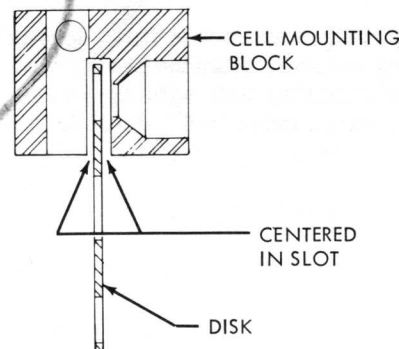

Figure 5-5. Disk Location
- b. Reinstall disk and slightly tighten disk mounting screw. Check to see that disk is located in center of solar cell mounting block. If care has been taken to remove and reinstall the cell unit and disk, the disk will be located in the same place, in reference to cell mounting block, as it was originally installed (Figure 5-5).